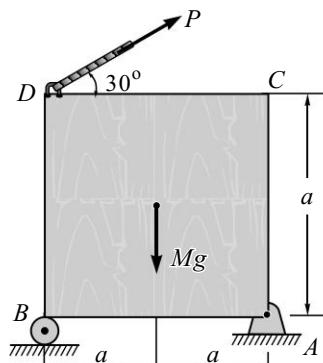

Fig. 3.E29
30. Figure 3.E30 shows several identical smooth rollers of weight W each stacked on an inclined plane. Determine (a) the maximum number of rollers which will lie in a single row as shown and (b) all forces acting on roller A under condition (a).